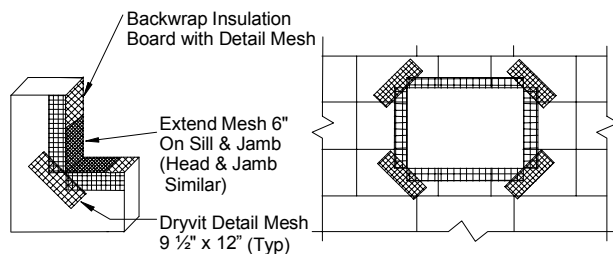

Figure No. 1
19. Corners of all openings such as windows, doors, mechanical equipment and all penetrations shall be reinforced with Detail mesh placed diagonally to the opening as illustrated in Figure No. 1 below. This will reduce the potential for cracking at these high stress areas.